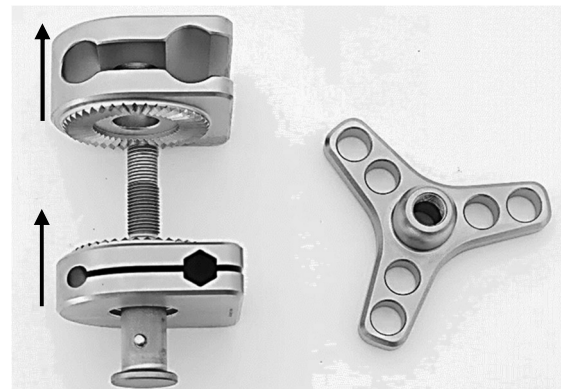

Fig. 21
First pull the upper clamping sleeve (2) from the threaded rod (4), then remove the lower clamping piece (3) (Fig. 21).